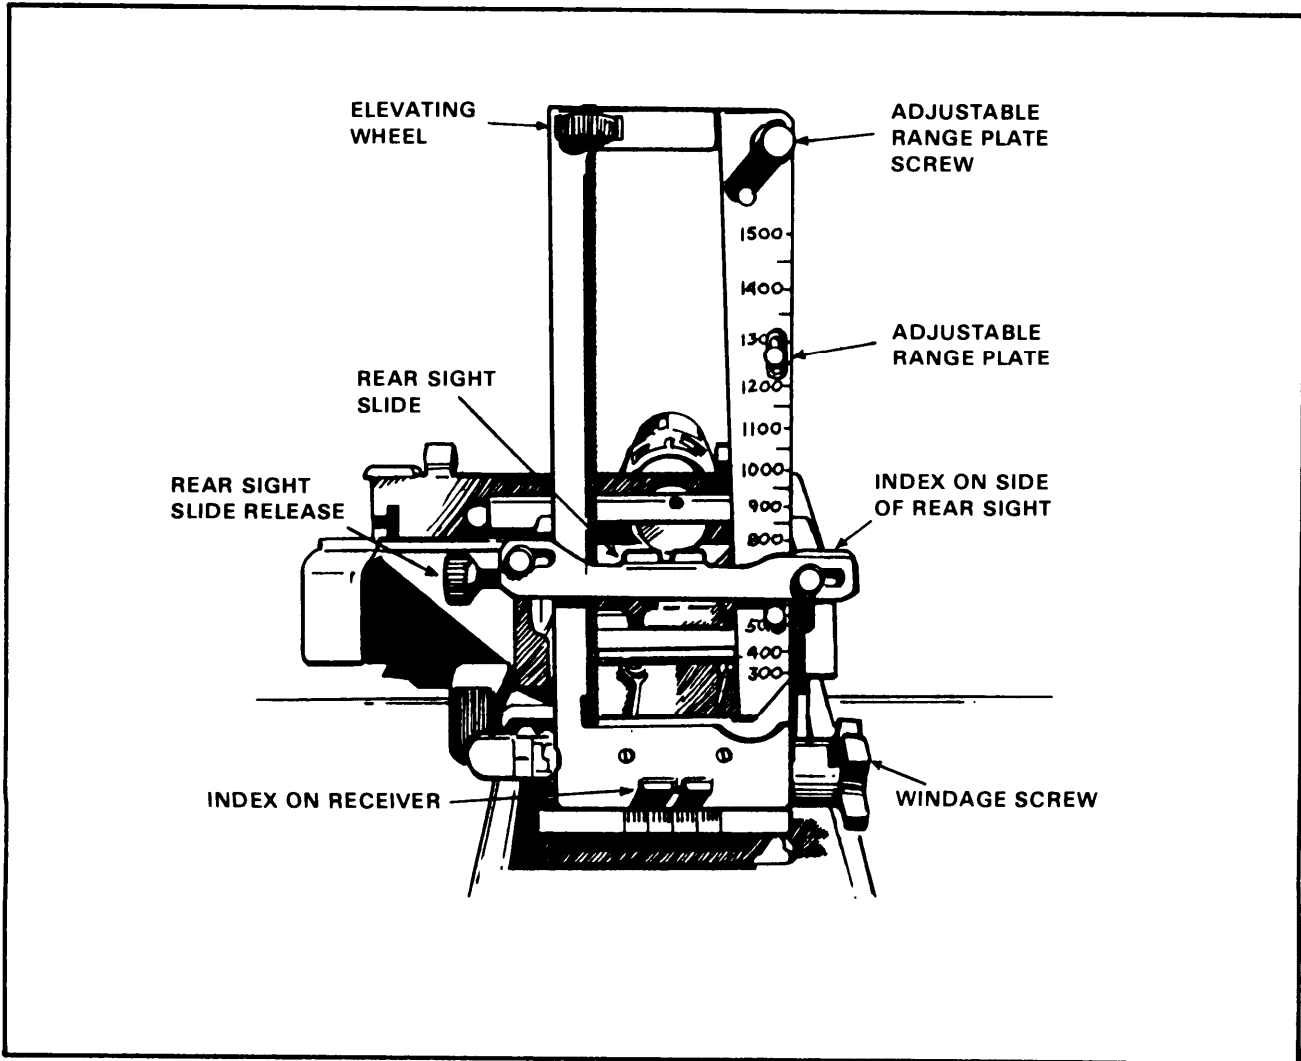

Figure 1-4. Rear sight.
- c. The MK 19 has a leaf-type rear sight (with an adjustable range plate) mounted on a spring dovetail base, which should be folded forward to a horizontal position when the weapon is moved, and which has, on the sight leaf, a range plate incremented in 100-meter intervals from 300 to 1500 meters. Range changes may be made using either the slide release or the elevation wheel: the slide release is used for making major changes in elevation; the elevation wheel is used for making fine adjustments (Figure 1-4). The rear sight is adjustable for windage: turning the windage screw clockwise moves the sight to the right; turning it counterclockwise moves the sight to the left. One click equals a 1-mil change.